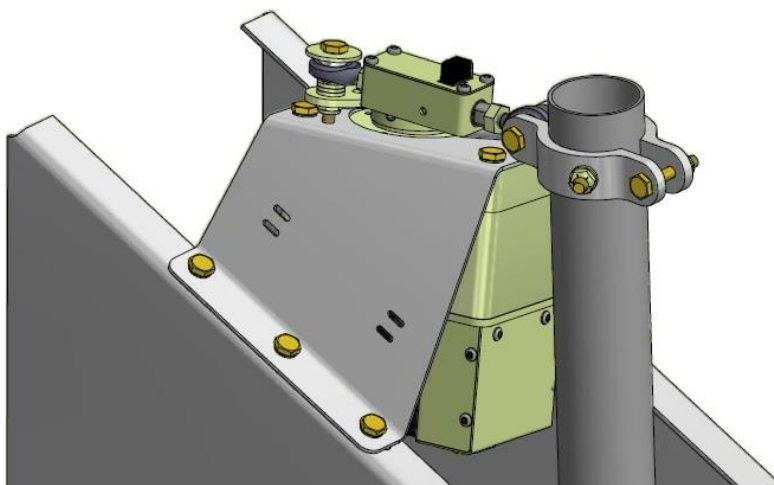

Figure 3-11
- 11.4. Fasten the rod end bearing to the servo arm using fasteners as shown in figure 3-11 and torque to 20-25 in-lb.